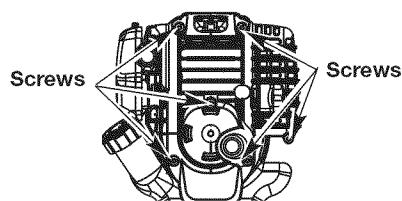

Fig. 29
1. Remove the six (6) screws on the back of the engine cover with a Flat-head or T-25 Torx screwdriver (Fig. 29).
4. Remove the engine cover (Fig. 29).
1. Stop the engine and allow it to cool. Remove the six (6) screws on the back of the engine cover with a Flat-head or T-25 Torx screwdriver (Fig. 29).